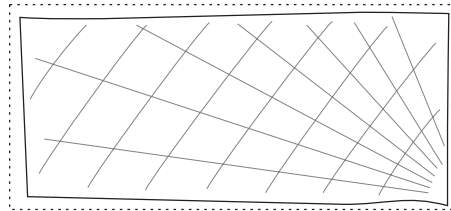

FIG. 10
- (d) Figure 10 illustrates the shape of one end of a timber board. The board shows evidence of one timber defect. Name the defect, and indicate how the piece of timber can be reconditioned.